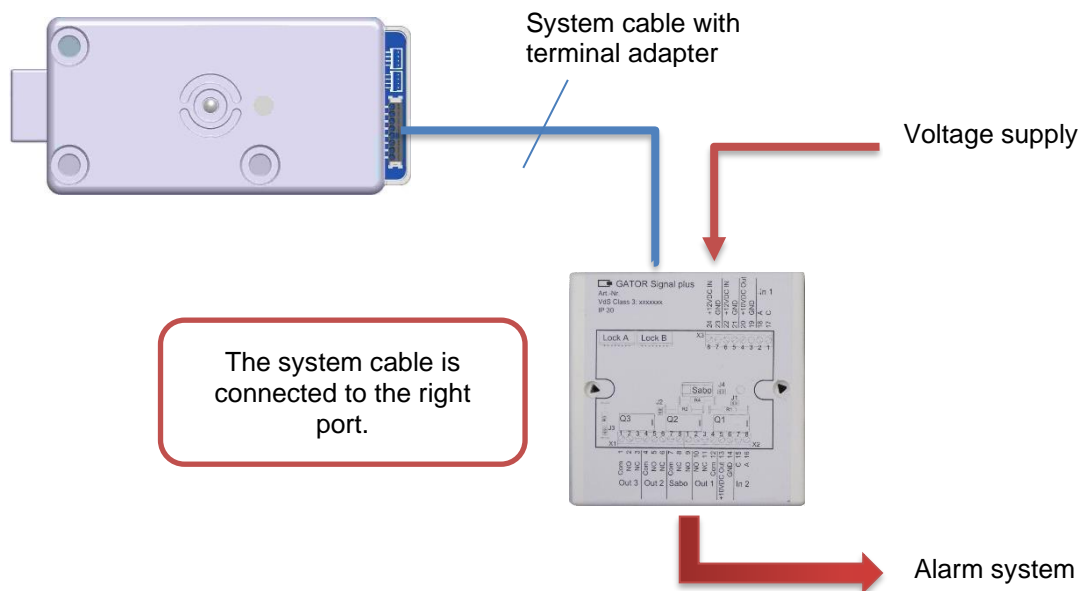

Figure 5 - Connection of the Gator Signal plus
- Figure 5 - Connection of the Gator Signal plus 9